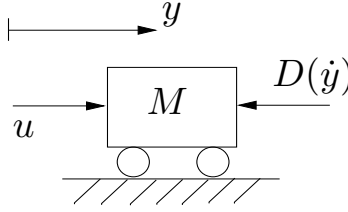

Figure 2.16: Cart on wheels.
6. *Example.* Figure 2.16 shows a cart on wheels, driven by a force u and subject to air resistance. Typically air resistance creates a force depending on the velocity, \dot{y} ; let us say this force is a possibly nonlinear function $D(\dot{y})$. Assuming M is constant, Newton's second law gives